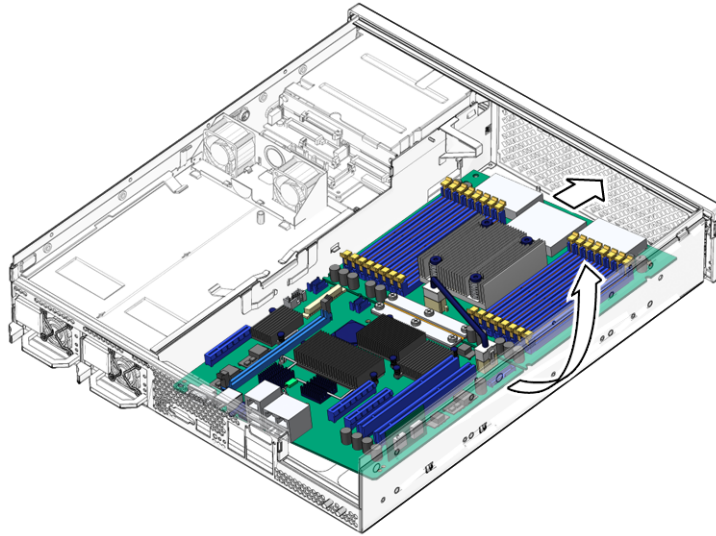

FIGURE 4-25 Removing the Motherboard Assembly From the Chassis
7. Lift up slightly and slide the motherboard assembly forward, lift up on the right edge, and remove the motherboard assembly from the chassis (FIGURE 4-25).